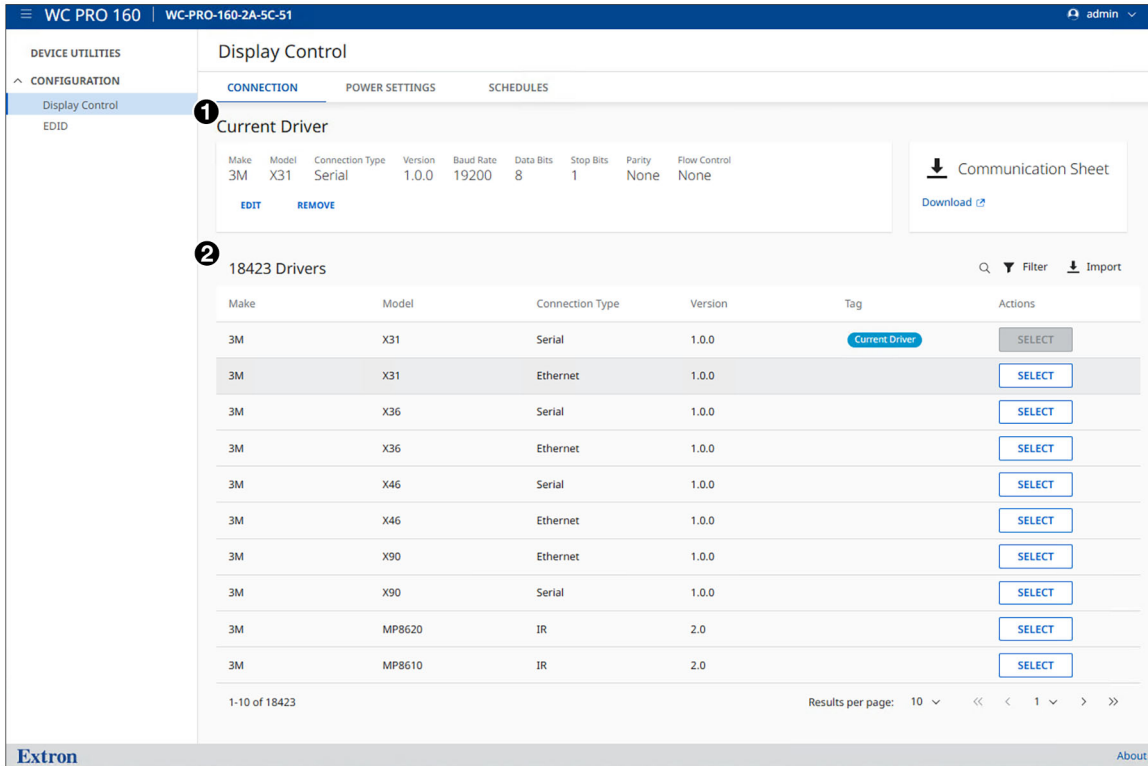

Figure 11. Display Control Page
The Display Control page (see figure 11) has three tabs to connect a display, turn power on and off via the occupancy sensor, and create schedules to turn the display on and off. When the **DISPLAY CONTROL** tab is selected, the page opens to the Connection page, on which drivers that have been loaded are listed. If no drivers are displayed, see Resources on page 14 or contact your Extron representative for information on obtaining them.
- **Connection tab** — Select this tab to display the Connection panel, on which to view the current driver and download its communication sheet (see figure 11, ①), or locate, select and configure drivers for the connected display (②).